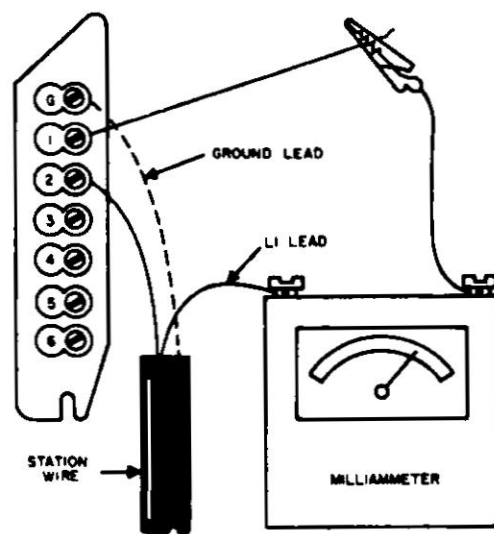

Figure 10. Line Current Measurements at Customers' Premises.
6.11 When installation is being made at a station served by a tributary office with no direct test board trunks, a precise adjustment can still be made by connecting a portable milliammeter in series with one of the line conductors at the transmission unit in the telephone (Figure 10).